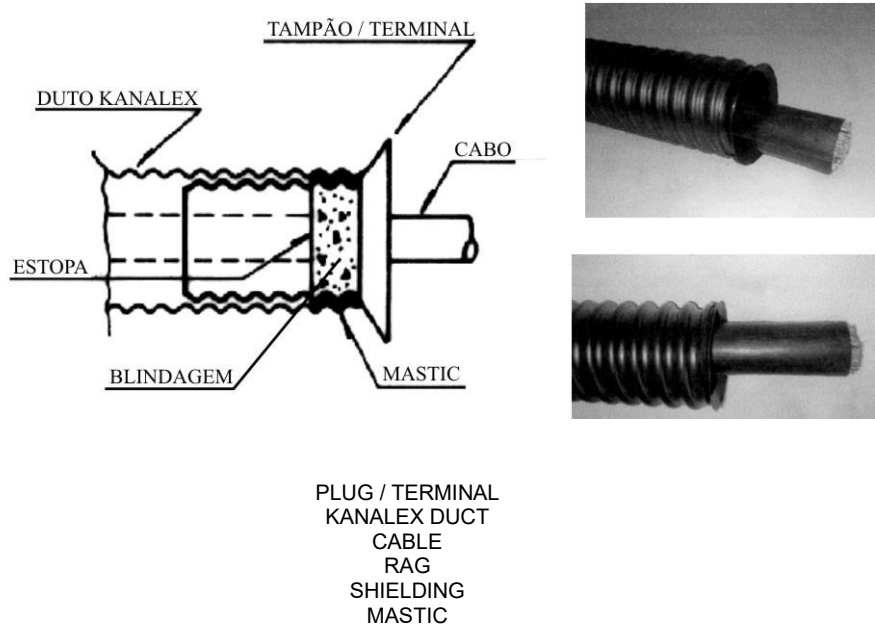

Figure 45
- c) Fill in the space encompassed between the cable and the terminal with a layer of rag forming a bulkhead and thus blocking the material applied later from penetrating inside the duct as shown in Figure 45.